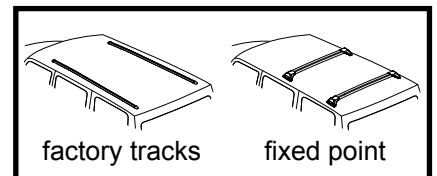

fig. 1
- For factory tracks or fixed points (see figure 1), ensure roof does not deform when heavy loads are applied